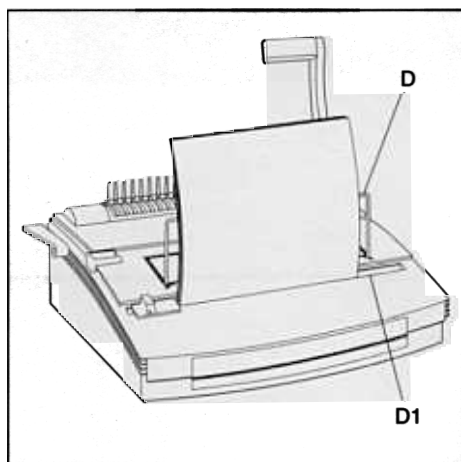

Figure 2
D. PUNCHING PAPER (see figure 2)
1. Lift the Wire Paper Support (D) into place, optional.
4. To punch, pull the Punch Handle (A) toward you. Pull all the way down to punch completely through the paper. Punches up to 25 sheets of 20 lb./80 gram paper at once. Punch only TWO clear covers at a time to prevent jams and excessive wear.